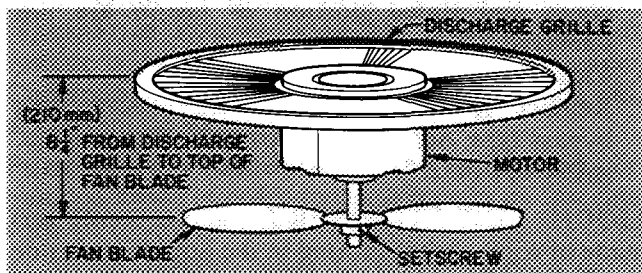

Fig. 20 — Condenser Fan Position
7. Reverse procedure for reassembly. Before replacing metal fan, be sure rain shield is in place on motor shaft. Seal with Permagum around hub to prevent entry of water between hub and shaft. Make sure fan is positioned correctly as shown in Fig. 20.